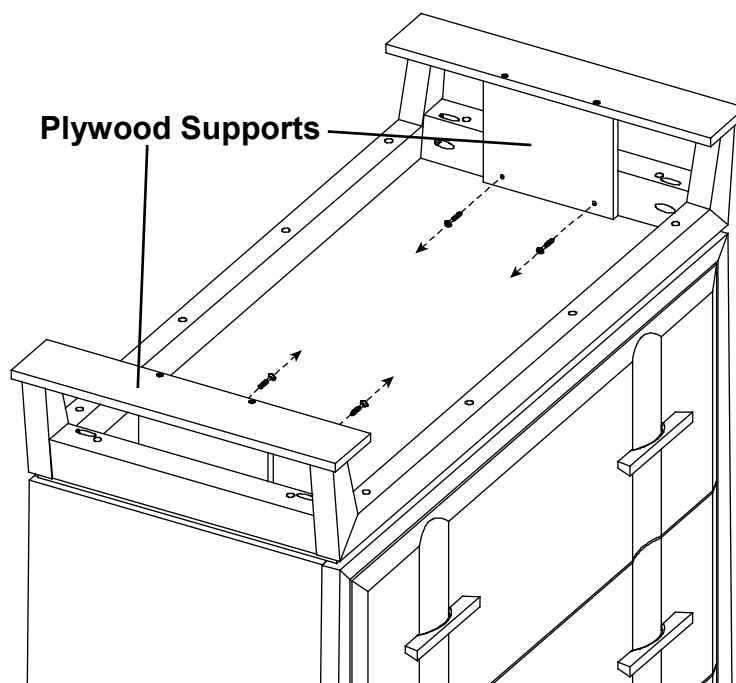

Fig. 1
1. Remove screws from the plywood supports and side aprons. Recycle or discard. See Figure 1.